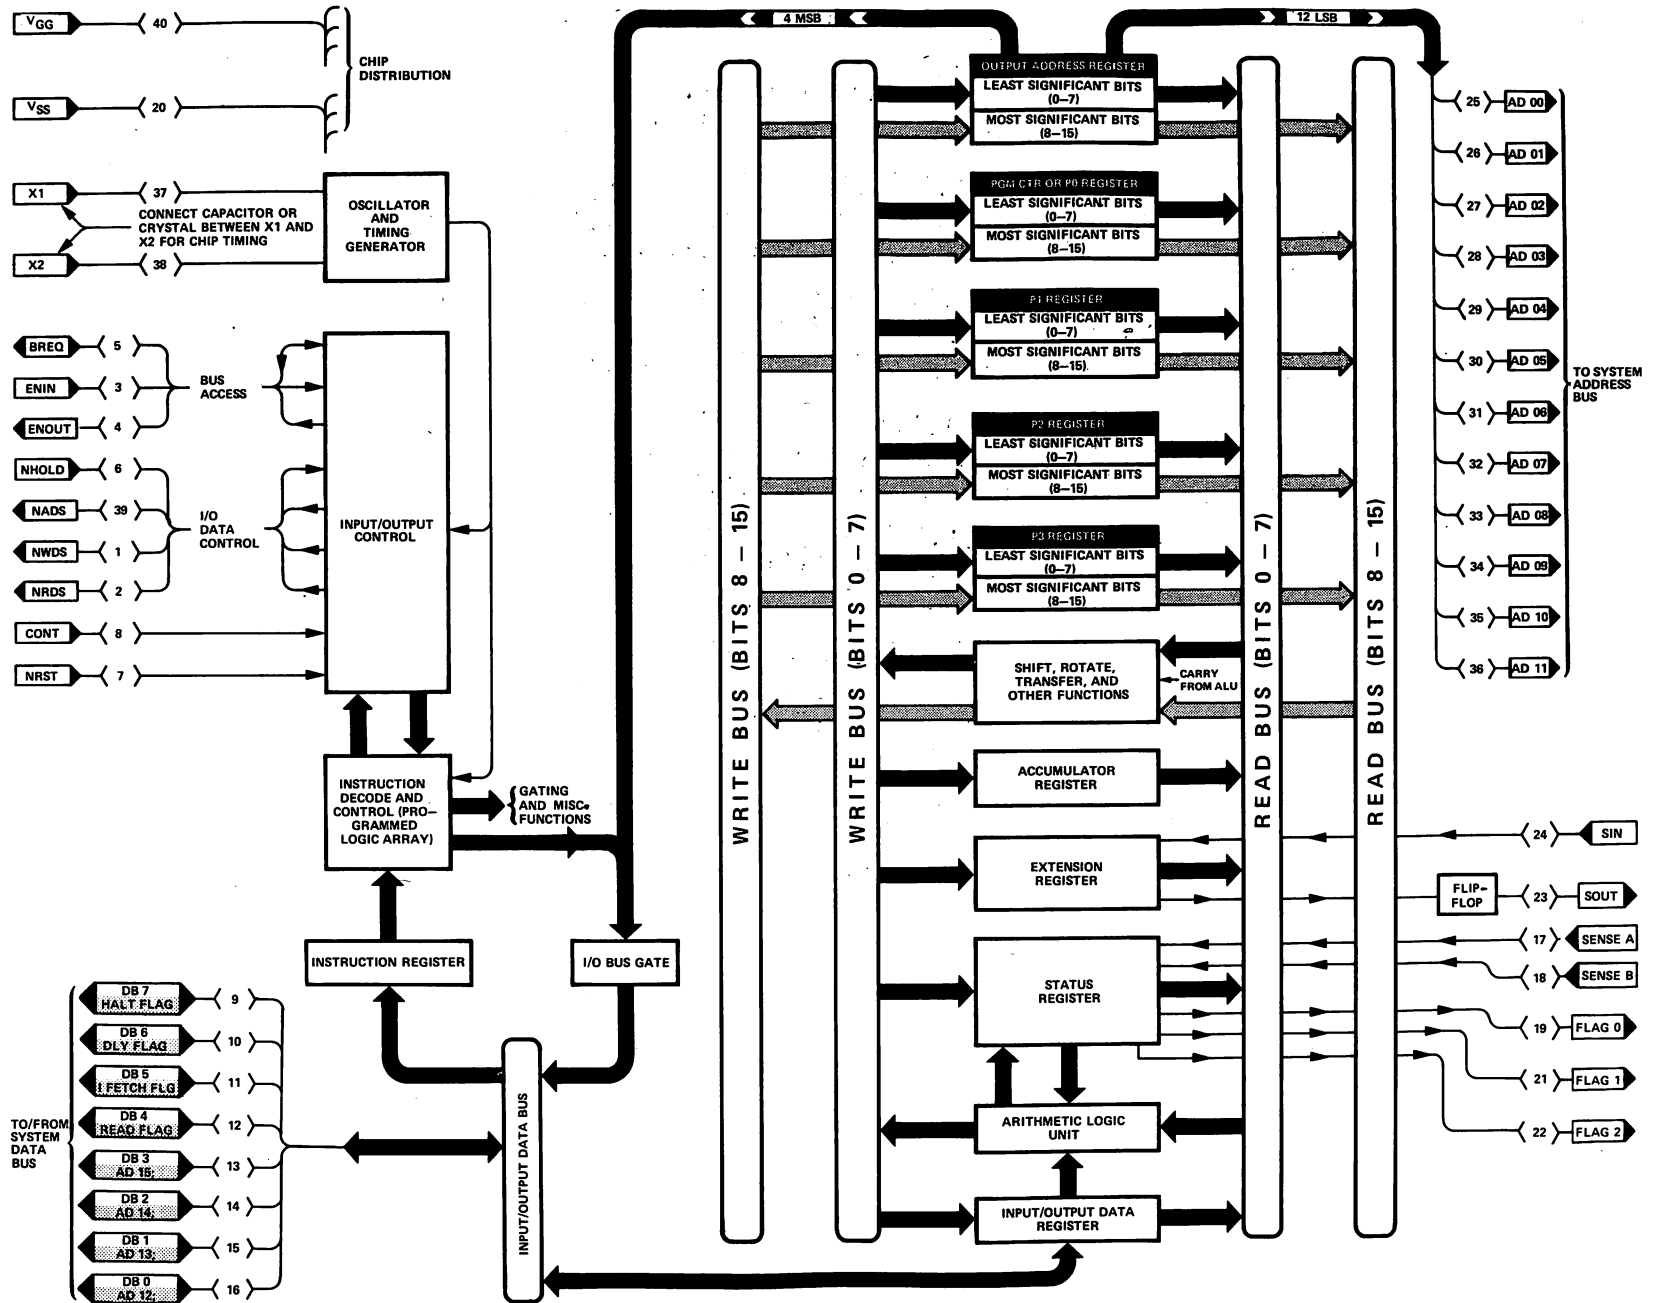

Figure 2-1. SC/MP Functional Block Diagram with Pinouts
Figure 2-1 is a functional block diagram of the SC/MP chip. Input/output signals shown on figure 2-1 are described in table 2-1. The various functional units shown are described in this chapter under the following major headings: (1) Power and Timing Control, (2) Input/Output Control, and (3) Internal Control and Data Movement. These descriptions are oriented to viewpoints of user operation and application.
When a bus request is granted, BREQ and ENIN are high; at this time, AD00 through AD11 of figure 2-1 are recognized as a valid address and any one of 4,096 discrete memory locations can be selected. The 12-bit address is latched on the SC/MP chip. That is, it remains on the bus for the duration of the input/output cycle; hence, the address strobe (NADS) may not be needed if only the 12-bit latched address is used.